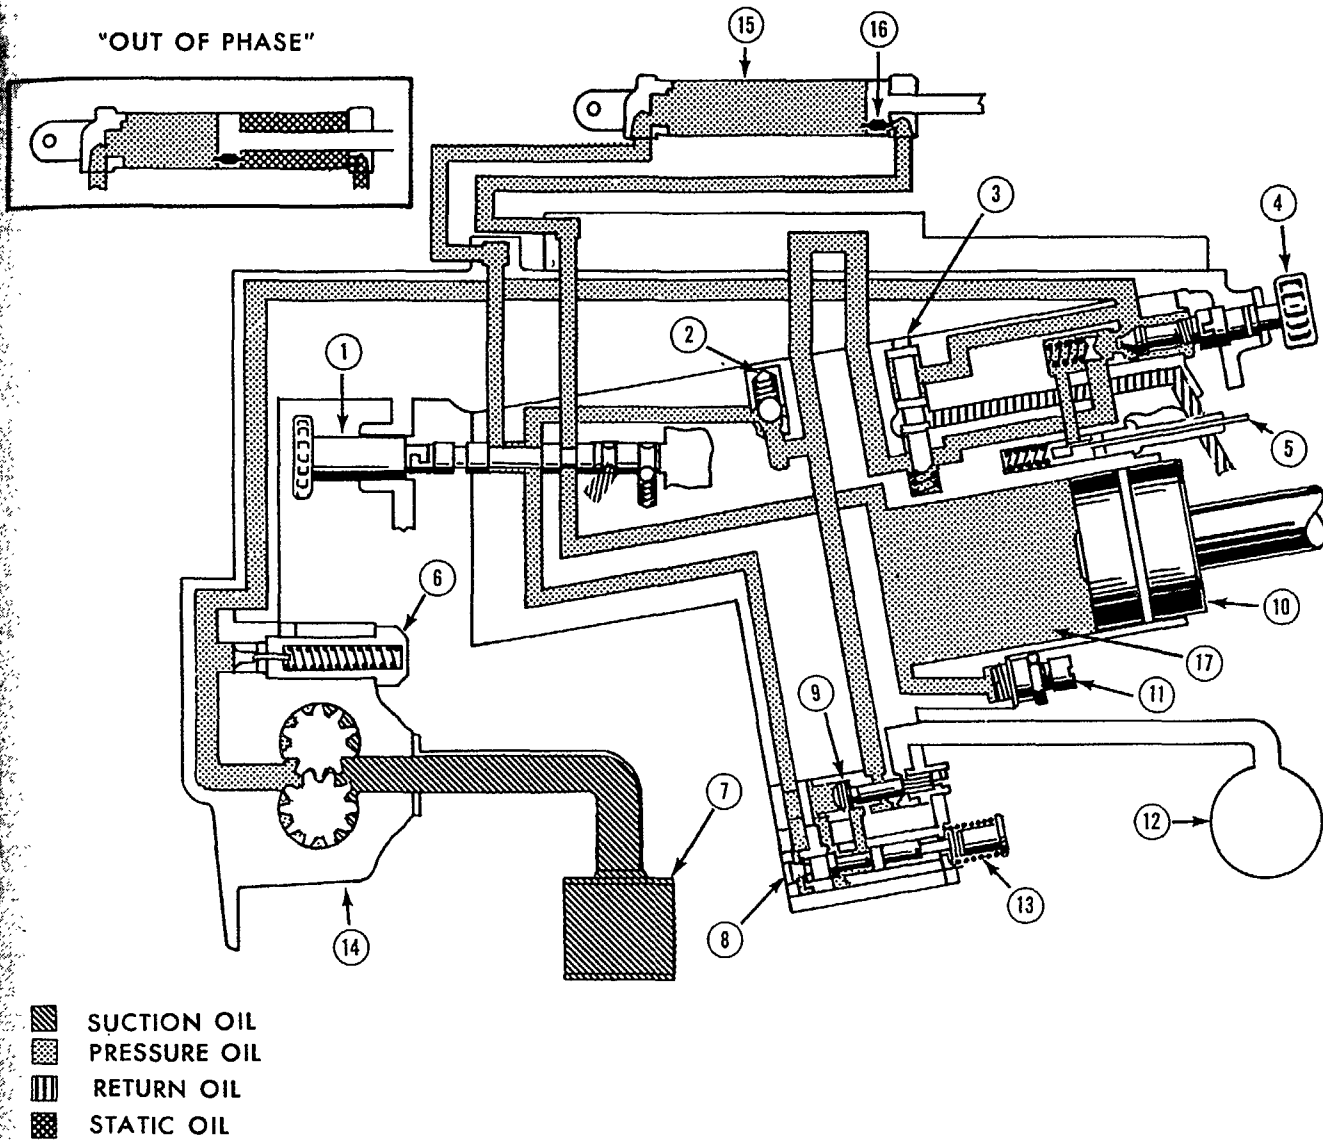

Figure 8
Figure 8 illustrates the hydraulic system and special remote cylinder in schematic form. Typically, pump pressure oil is routed to the piston end of the special remote cylinder. Exhaust oil from the rod end of the cylinder is routed to the tractor lift cylinder piston to extend it simultaneously with the special remote cylinder. Because the special remote cylinder is smaller than the tractor lift cylinder, it will reach the end of its stroke while the tractor lift cylinder is only partially extended. For this reason, a bypass valve (16), Figure 8, is provided in the piston of the special cylinder. As a result, when the special cylinder reaches the end of its stroke, the bypass valve is pushed off of its seat allowing pump pressure oil to flow through the cylinder to the tractor lift cylinder so it can also complete its stroke and return the control valve spool to neutral by contacting the stop pin.